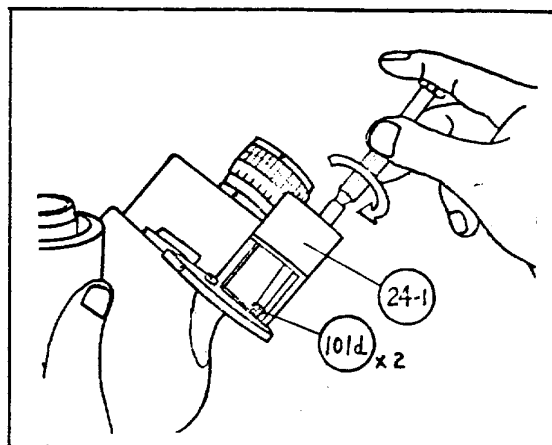

Fig. 9
- 7) Unscrewing the screws (101d)  $\times 2$ , remove the eyepiece sleeve holder (24-1) (Fig. 9).